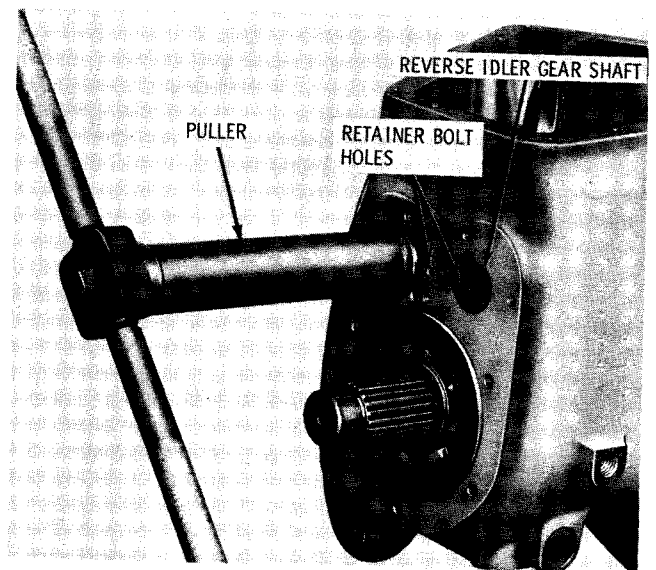

Fig. 5-38. Removing reverse idler gear and shifter shafts
(2) Using slide hammer J-2619 or a suitable puller screw and puller body, remove the reverse shifter gear and reverse idler gear shafts from the main housing (fig. 5-38).